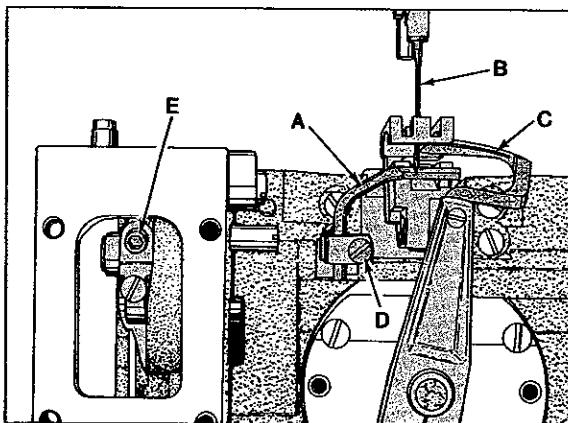

Fig. 17
At extreme forward end of travel, rear needle guard (A, Fig. 17) must be set horizontally not to contact needle (B) with a maximum clearance of  $.005$  inch (.127mm). Guard should be set as low as possible, yet have its vertical face approach approximately  $3/64$  inch (1.2mm) of needle point until point of looper (C) moving to the left, is even with the right side of needle. Adjustment can be made by loosening screw (D), reposition needle guard as required and retighten screw.